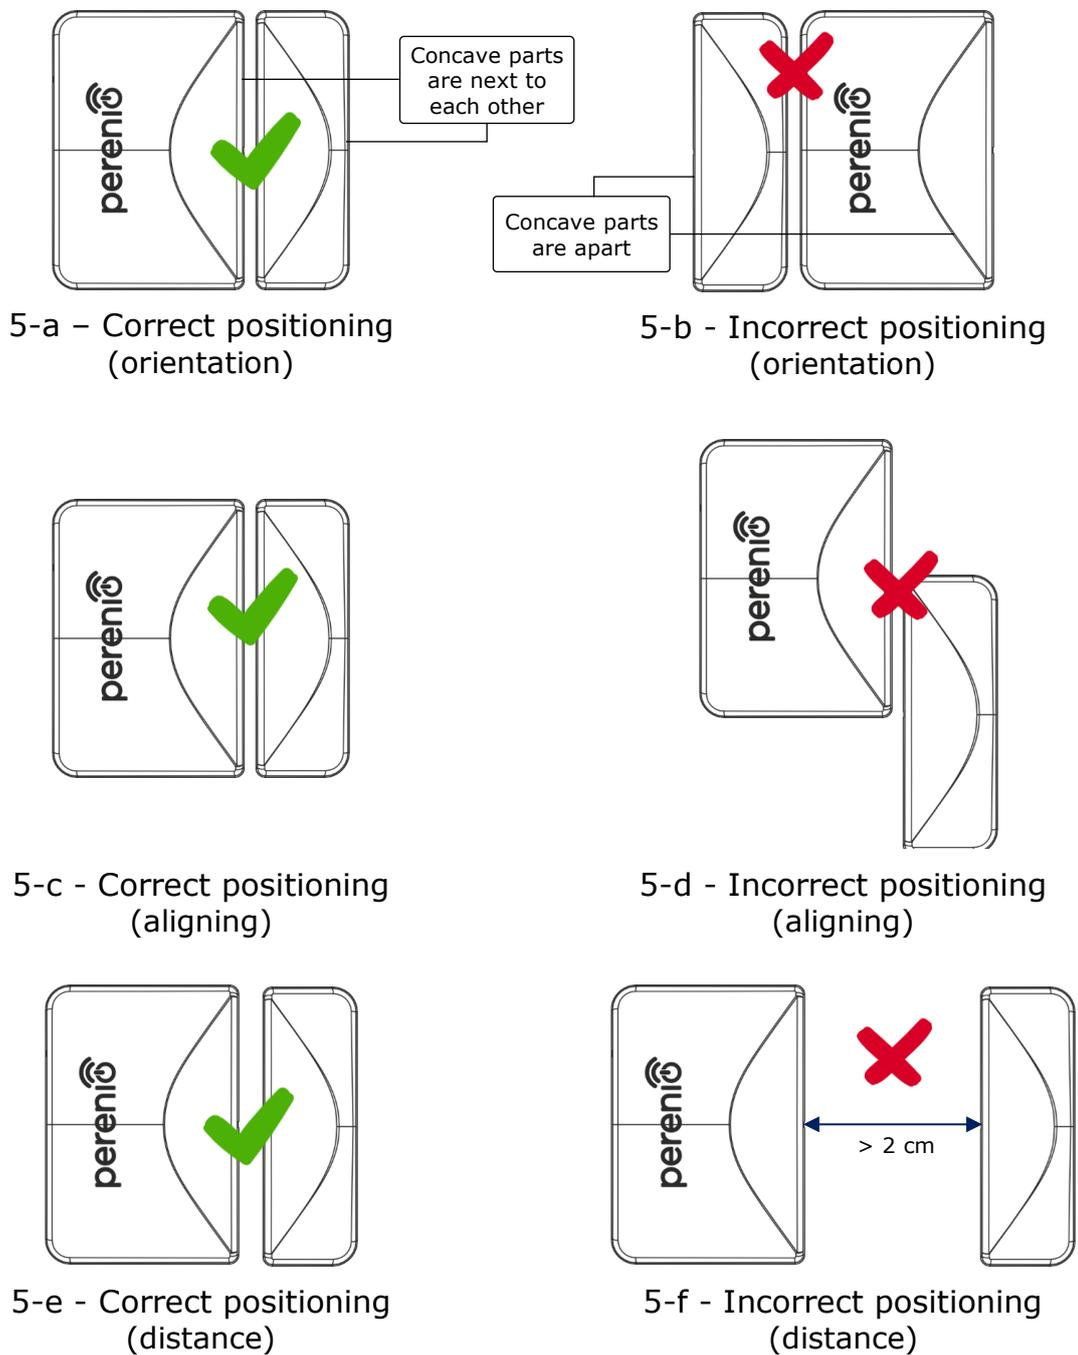

Figure 5 – Installation rules for the Sensor and the Magnet
- a. Attach the Sensor on the door or window frame using 3M tape (See Figure 5-a). You can also mount the Sensor using the screw;
ATTENTION! It is required to install the Sensor and the Magnet in such a way that concave parts of their bodies are next to each other (See Figure 5-a below).